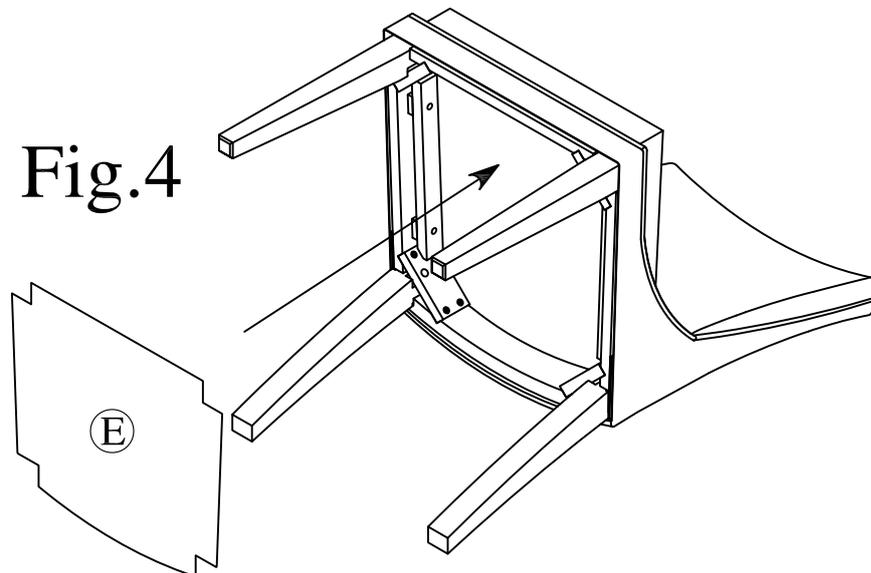

Fig.4
Step 4: Attache Velcro (E) under Complete Cushion Seat (A) as shown in Fig.4